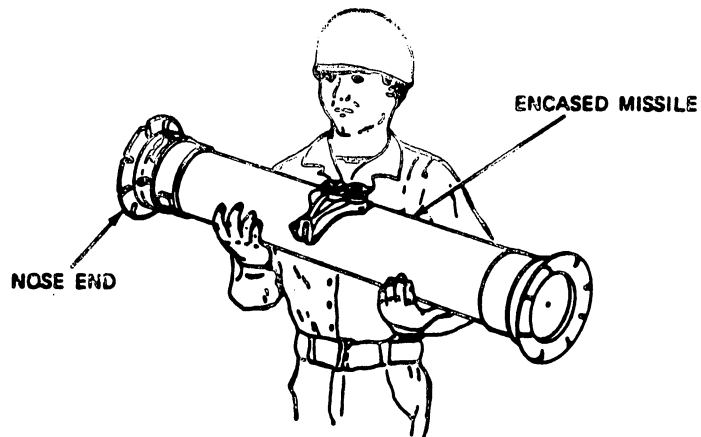

Fig 4-4. Carrying the missile.
Step 4. Carry the encased missile to the TOW 2 weapon system (fig 4-4) and check the diaphragm for breaks.